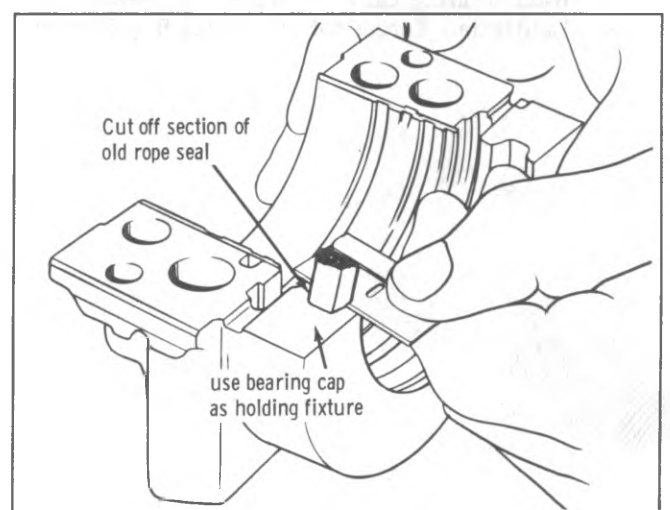

Fig. 6A3-95--Cutting Off Lower Seal Ends
2. Insert Packing Tool J-25286 against one end of seal in cylinder block and drive the old seal gently into the groove until it is packed tight. This varies from 1/4" to 3/4", depending on the amount of pack required. (Fig. 6A3-94).
4. Measure the amount the seal was driven up on one side; add $1/16$ " , then cut this length from the old seal removed from the main bearing cap with a single edge razor blade. Measure the amount the seal was driven up on the other side. Add $1/16$ " and cut another length from old seal. Use main bearing cap as a holding fixture when cutting seal as shown in Fig. 6A3-95.